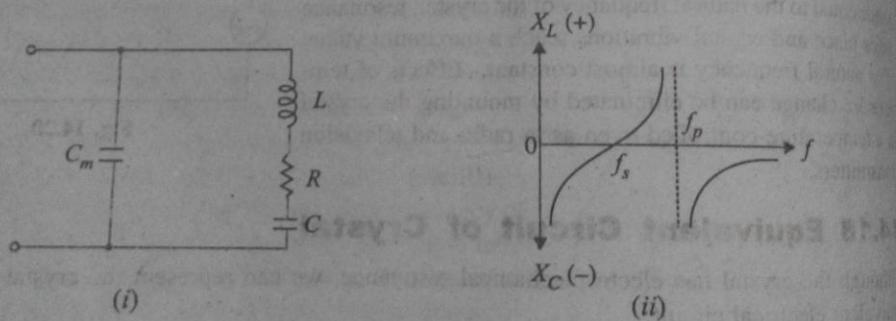

Fig. 14.22
When the crystal is vibrating, its equivalent electrical circuit is as shown in Fig. 14.22 (i). The capacitance values of C and C_m are relatively low (less than 1 pF for C and 4–40 pF for C_m). Note that the value of C is much lower than that of C_m .
- At low frequencies, the impedance of the crystal is controlled by extremely high values of X_{C_m} and X_C . In other words, at low frequencies, the impedance of the network is high and capacitive as shown in Fig. 14.22 (ii).